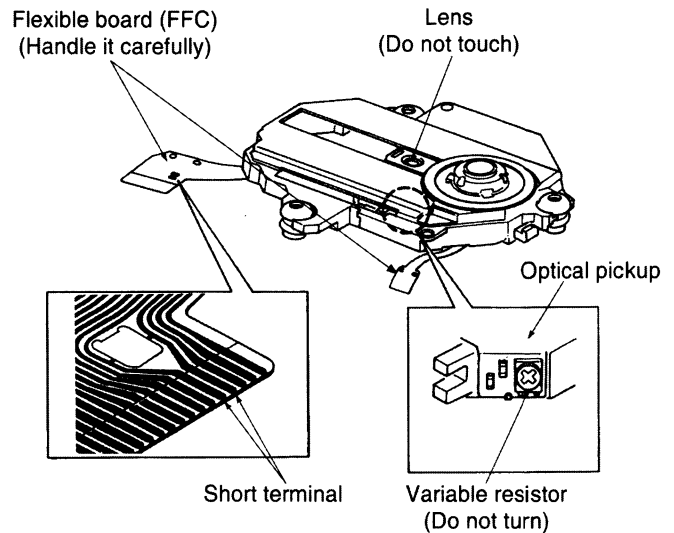

Fig. 1
2. The short land between the No. 5 (GND) and No. 4 (LD) pins on the flexible board is shorted with a solder build-up to prevent damage to the laser diode. (As shown in Fig. 1.)
4. Do not turn the variable resistor (laser power adjustment). It has already been adjusted. (As shown in Fig. 1.)